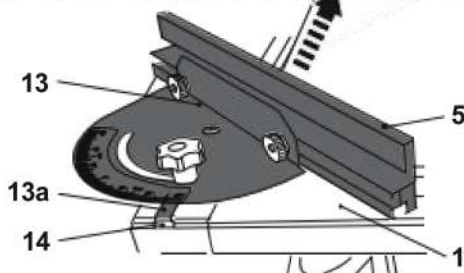

Fig. 7
- > Slide the guide rail (13a) into the groove of the miter guide (14) on the work table (1) (fig. 7).